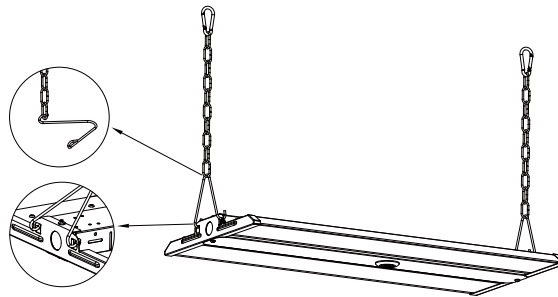

Figure 1
Step1.Hook up the chain; (Figure 1)
Step2.Connect the chain with fixture; (Figure 1)
step3.Fix the chain on the rail, adjust the chain length as per need; (Figure 1)